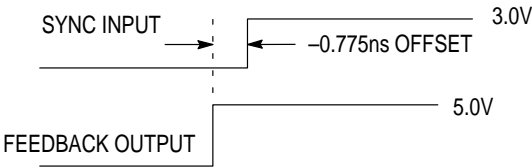

Figure 2. Depiction of the Fixed SYNC to Feedback Offset (t_{PD}) Which is Present When a 470KΩ Resistor is Tied to VCC or Ground
4. A 1 MΩ resistor tied to either Analog V_{CC} or Analog GND as shown in Figure 2 is required to ensure no jitter is present on the MC88915 outputs. This technique causes a phase offset between the SYNC input and the output connected to the FEEDBACK input, measured at the input pins. The t_{PD} spec describes how this offset varies with process, temperature, and voltage. The specs were arrived at by measuring the phase relationship for the 14